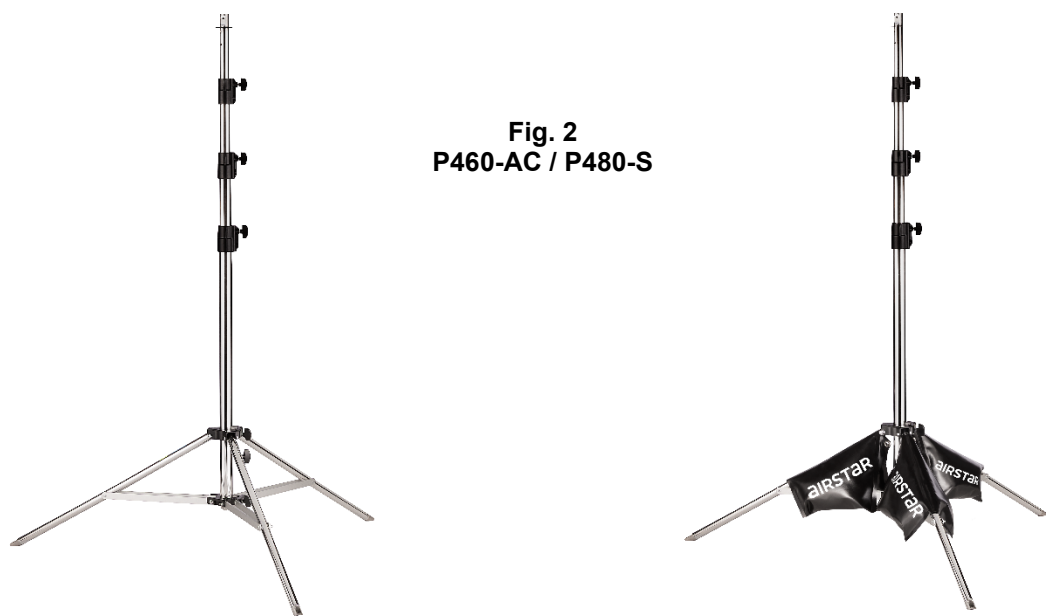

Fig. 2
3. On the P460-AC / P480-S stands (Fig. 2), slide the feet of the stand out from their folded position until the reinforcing bars are precisely horizontal.
4. On the P460-AC / P480-S stands (Fig. 2), Airstar sandbags must be positioned on each stand feet and attached around the central column.